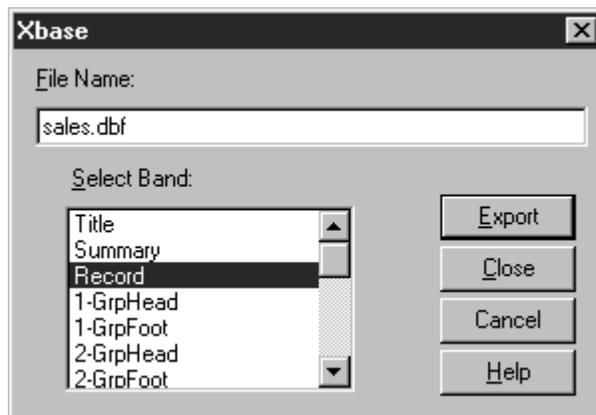

Figure 17.11 Xbase/Worksheet Export Dialog
1. On the Export dialog box, highlight either "Xbase" or "Worksheet" in the list box and select Edit. Depending on the export type, either the Xbase Export dialog (shown in Figure 17.11) or the Worksheet Export dialog displays.